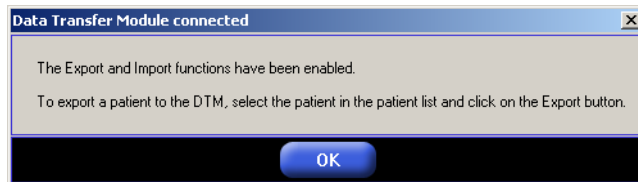

Fig. 25 DTM confirmation
- 1 Insert the DTM into one of the two USB ports on the face of the console. The instructional message shown in Figure 25 is displayed.